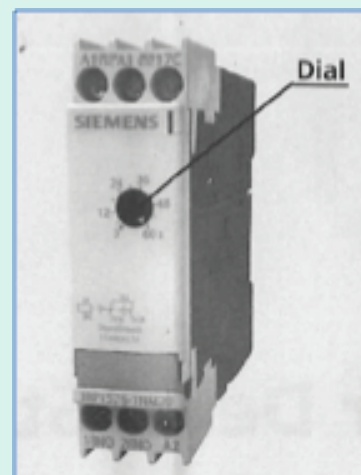

Fig. 13A: Timer Adjustment
- Stop the motor. Set the timer to this measured value by rotating the dial shown in Fig. 13A.